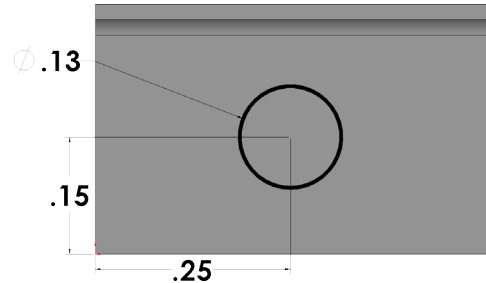

Fig. 7
Step 3. Click **Circle**  (S) on the Sketch toolbar.
Step 4. Draw circle for hole, **Fig. 7**.
Step 5. Click **Smart Dimension**  (S) on the Sketch toolbar.
Step 6. Dimension as shown in **Fig. 7**.